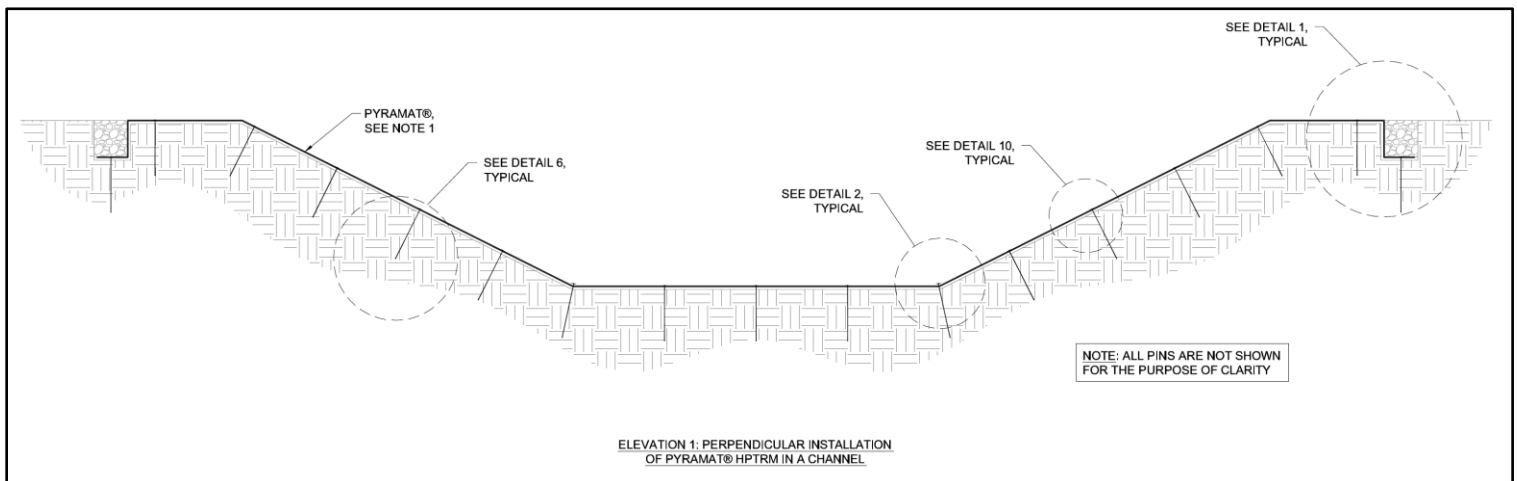

Figure 20: Completed Channel Elevation View
18. At a minimum, PYRAMAT panels should be pinned entirely across the channel surface, pins should be installed in the trenches, and the trenches should be backfilled and compacted at the end of each day to minimize rework in the case of a major rain event. Specific project conditions may warrant further evaluation of installation order for ease. An example elevation view (Figure 20) of a channel armored with PYRAMAT can be seen below for overall reference. Consult Propex Engineering Services at 800.621.1273 with any questions that you may have.